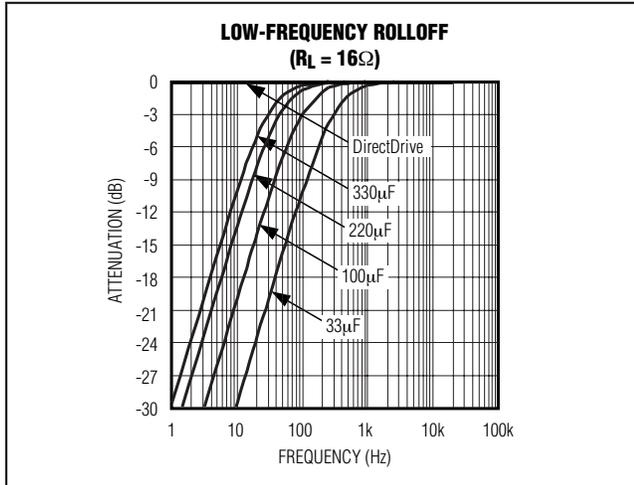

Figure 2. Low-Frequency Attenuation of Common DC-Blocking Capacitor Values
- The highpass filter is required by conventional single-ended, single-supply headphone amplifier to block the midrail DC component of the audio signal from the headphones. Depending on the -3dB point, the filter can attenuate low-frequency signals within the audio band. Larger values of  $C_{OUT}$  reduce the attenuation, but are physically larger, more expensive capacitors. Figure 2 shows the relationship between the size of  $C_{OUT}$  and the resulting low-frequency attenuation. Note the Vista's magnitude response specification calls for a -3dB point at 20Hz at the headphone jack. The -3dB point at 20Hz for a 32Ω headphone requires a 330µF blocking capacitor (Table 2).